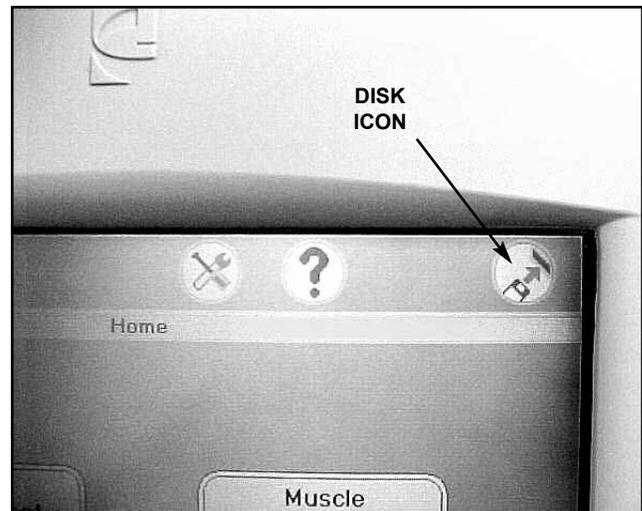

FIGURE 5.32
1. With unit on, press the “Disk” icon in the top R.H. corner on the “Home” screen. See Figure 5.32.
4. Press “Disk” icon in the top R.H. corner of the “Home” screen. See Figure 5.32.